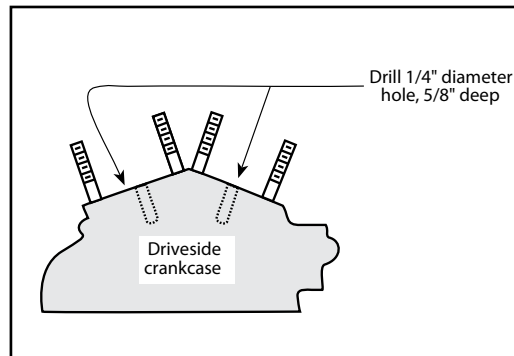

Figure 5
- D. Drill 1/4" diameter hole perpendicular into crankcase gasket surface 5/8" deep. **See Figure 5, below right.**